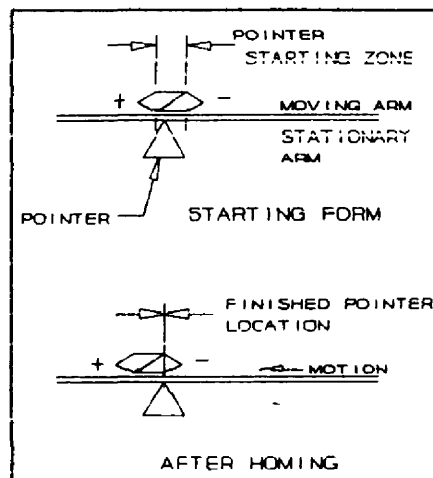

FIGURE 2-2 Use of the Homing Marks.
STEP 2) Once all marks have been lined up as shown as "STARTING FORM" in Figure 2-2, type:
Now the controller takes over and accurately moves each joint toward the Home point. Notice that the joint moves at a very slow rate (5% of full speed) until the arrow points at the end of the opposite Homing mark (as shown as "AFTER HOMING" in Figure 2-2). As each joint reaches its Home location exactly, the screen displays a message that the HOME test has passed for that joint. If a test of any axis fails, or the arrow does not line up properly when the test has passed, you must repeat the entire Homing procedure. Note that the Home position may look "awkward" and seemingly random, but when the Homing sequence is completed successfully, the robot controller knows where the arm is.